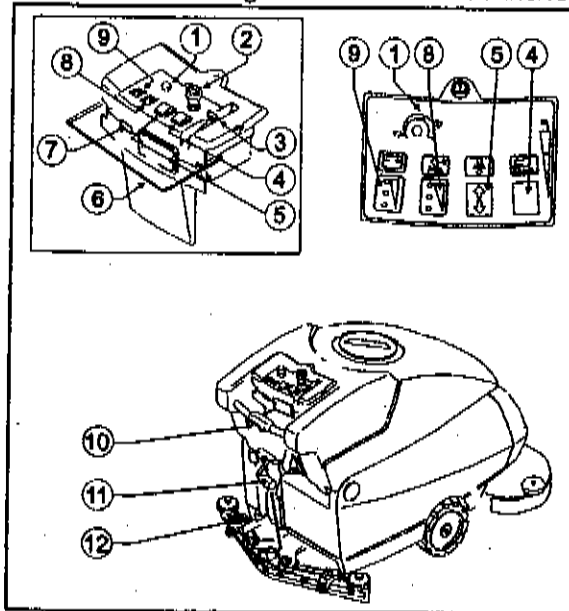
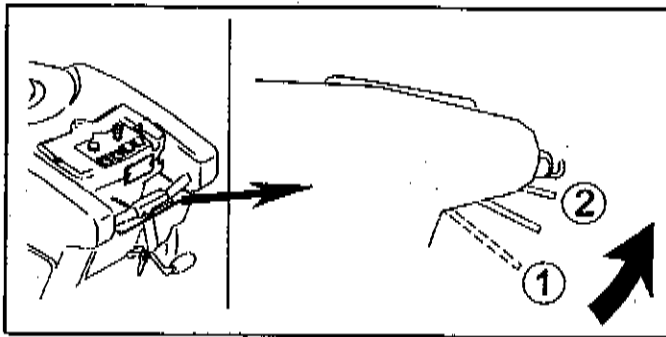

Fig. 8
Fig. 10
- 1) Stop the machine and press the emergency button (fig. 8, ref. 2); engage the parking brake by means of the pedal (fig. 8, ref. 12);
With reference to fig. 8 the machine has the following controls and leds:
- 1) Stop the machine and press the emergency button (fig. 8, ref. 2); engage the parking brake by means of the pedal (fig. 9, ref. 5);
- raise the head by pressing the brush up-down button (fig. 8, ref. 5) on the arrow up;
- disengage the parking brake via the pedal (fig. 8, ref. 12);
- insert the key to release the emergency button (fig. 8, ref. 2);
- below the handgrip is a lever (fig. 8, ref. 6): by pulling the lever up (fig. 10, ref. 2) or pressing it down (fig. 10, ref. 1), according to whether you wish to move forward or back, the drive motor is switched on and the machine will begin to move;
- adjust the running speed via the potentiometer (fig. 8, ref. 1);
- once you have reached your destination, engage the parking brake via the pedal (fig. 8, ref. 12).
- Raise the head by pressing the brush up-down button (fig. 8, ref. 5) on the arrow up;
- press the brush release button (fig. 8, ref. 4) for a couple of seconds: when the button is released, the brushes will be released.
- press the brush up-down button (fig. 8, ref. 5) on the arrow down and keep it pressed until the first led of the brush pressure indicator comes on (fig. 8, ref. 8); in this phase the brush motor may come on and then switch off for a few moments: this is a normal part of the brush engagement procedure.
- check that the cock control lever (fig. 8, ref. 3) is at the position "off";
- lower the head by pressing the brush up-down button (fig. 8, ref. 5) on the arrow down;
- insert and operate the key to release the main switch (fig. 8, ref. 2) and enable all the machine functions: the battery charge level indicator will come on (fig. 8, ref. 9);
- move the cock lever (fig. 8, ref. 3) to the position of minimum flow of solution: the detergent solution begins to reach the brushes;
- press the brush up-down button (fig. 8, ref. 5) on the arrow down: the head will begin to move down and as soon as the brushes touch the floor the brush motors will come on. As the brushes rotate, the solution is distributed over the floor;
- lower the squeegee by means of the proper lever (fig. 8, ref. 11): the suction motor comes on;
- press the drive lever (fig. 8, ref. 6) placed under the handgrip: the drive motor is started and the machine starts moving forward;
- check cleaning quality during work and adjust, as required, the flow of solution sent to the brushes (by rotating the cursor (fig. 8, ref. 3)) and the pressure exerted by the head-brushes on the floor (via the brush up-down button (fig. 8, ref. 5) until the test pressure indicator (fig. 8, ref. 8) indicates the required level).